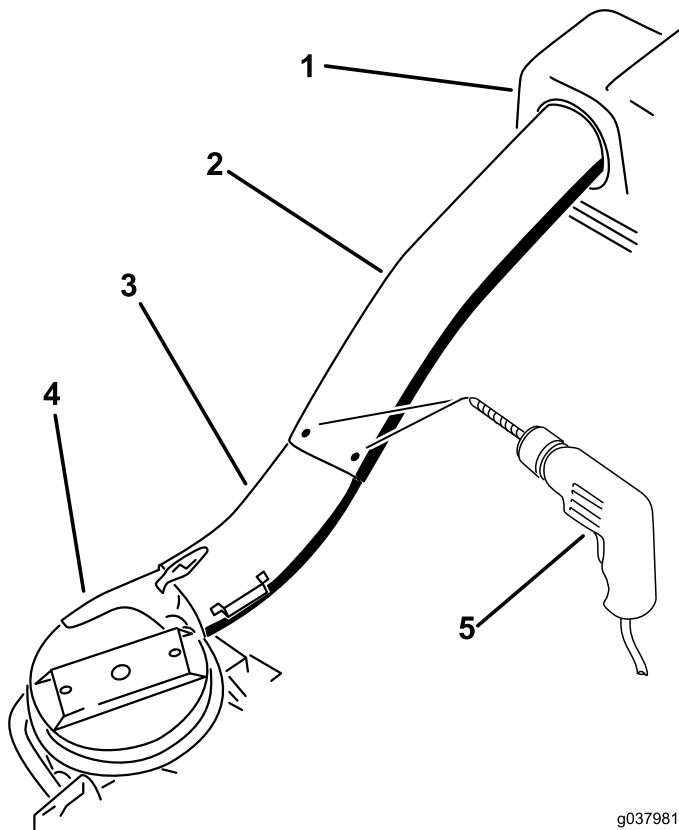

**Figure 53**
9. Slide the lower tube onto the blower housing and latch them together (Figure 53).